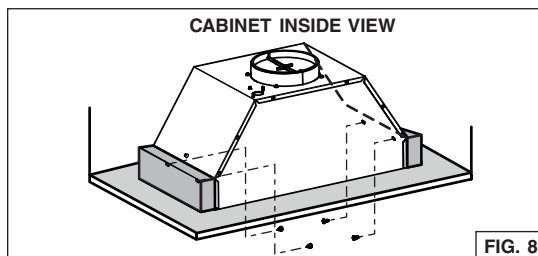

FIG. 8
6. Insert the power module in the cabinet (Fig. 8) and secure to the wood blocks previously installed using (4) wood screws included in parts bag (2 screws per side).